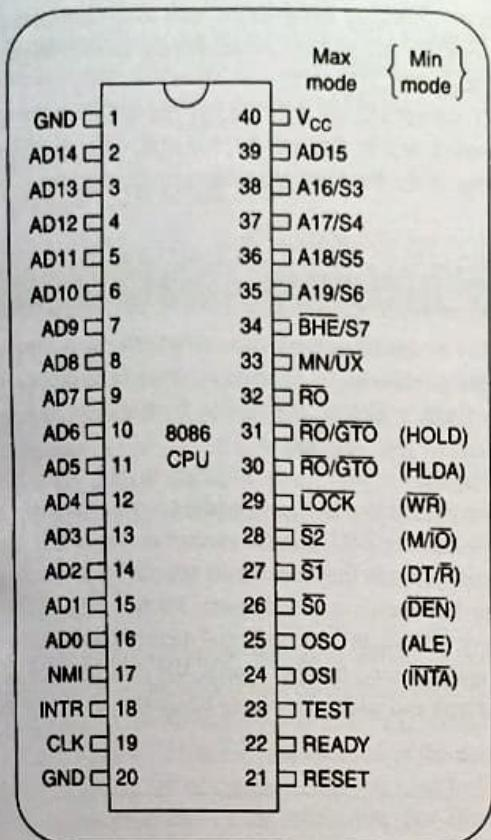

Fig. 2.9 The 8086 pin assignments.
6. The 8086 is designed to operate in two modes, minimum and maximum. In the *minimum mode*, the 8086 processor works in a single processor environment and generates control bus signals shown in parentheses next to pins 24 through 31 in the 8086 pin diagram of Fig. 2.9. The *maximum mode* is designed to be used to work with the coprocessor 8087 and generates signals listed next to pins 24 through 31.